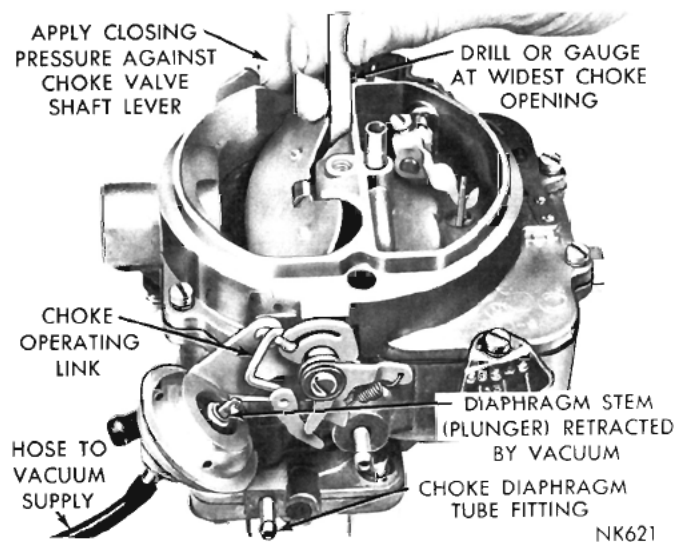

Fig. 11—Measuring the Choke Vacuum Kick Setting
(1) With the engine **Not** running, open the throttle valves far enough to allow the choke valve to be moved to the closed position.
(2) Disconnect the vacuum hose from the diaphragm and connect the hose from the vacuum supply, as shown in (Fig. 11). (A minimum of 10 inches of mercury (HG) will be required.)
(3) Insert a NO. 11 drill (Manual Trans.) or a NO. 22 drill (Auto. Trans.) between the choke valve and the wall of the air horn. Refer to (Fig. 11). Apply sufficient closing pressure on the choke shaft lever to provide the smallest choke valve opening possible without distortion of the diaphragm link. Note that the cylindrical stem of the diaphragm will extend as an internal spring is compressed. This spring must be fully compressed for proper measurement of the vacuum kick adjustment.
(4) An adjustment will be necessary if a slight drag is not obtained as the drill or gauge is being
(7) Install the choke operating link and recheck the choke valve opening, using a gauge or drill. Refer to (Fig. 11).